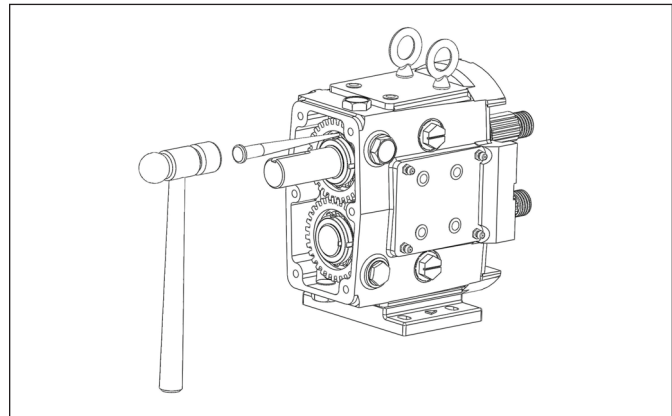
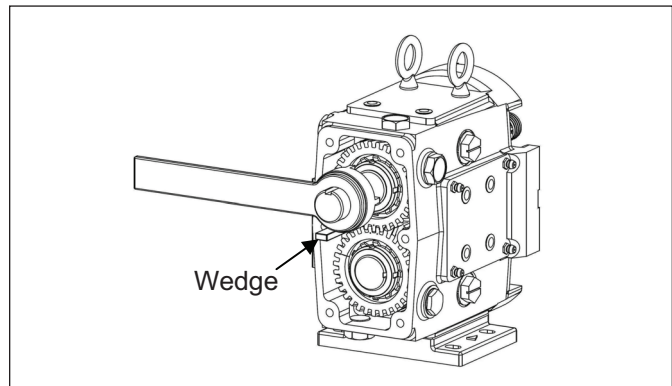

Figure 39. Bending Tabs on Lock Washers
Figure 40. Removing Lock Washers
2. Using a hammer and a punch, bend the tabs straight on the lock washers (Figure 39). Use a wedge (wood or plastic) to keep the shafts from turning while removing the lock nuts (Figure 40). Using a spanner wrench or the nut removal tool (available from Ampco), remove the gear lock nuts. Slowly remove the gears from the shafts. Remove the gear keys and gear spacers from the shafts.